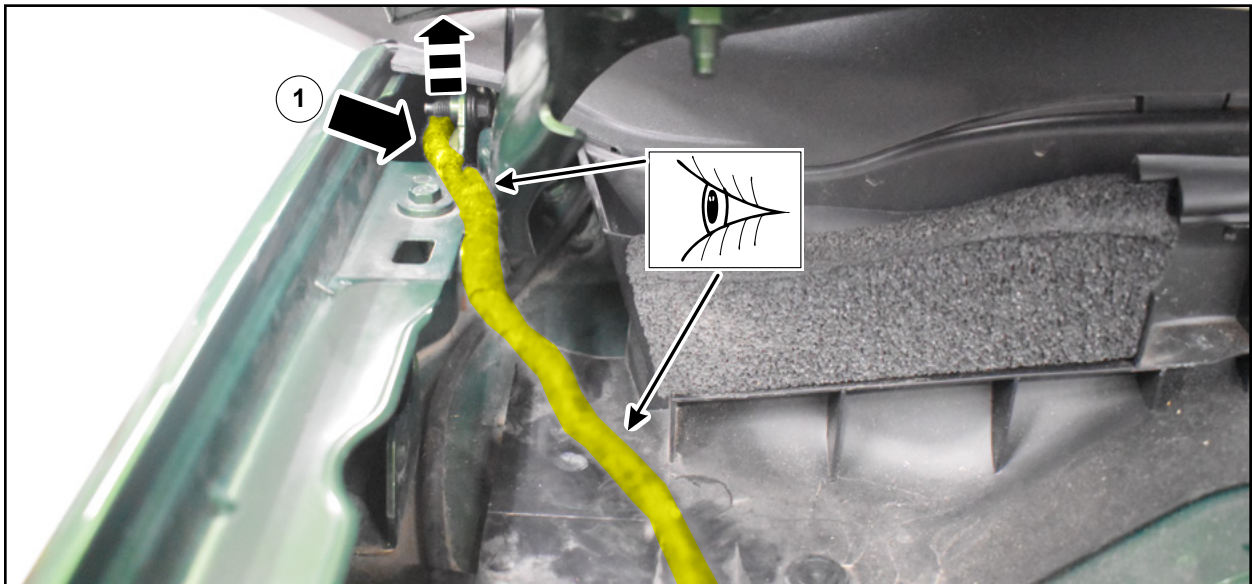

FIGURE 4
4. Carefully move the wire harness from under the fender. Pull the wire harness between the hood hinge and the fender until it is accessible. See Figure 4.